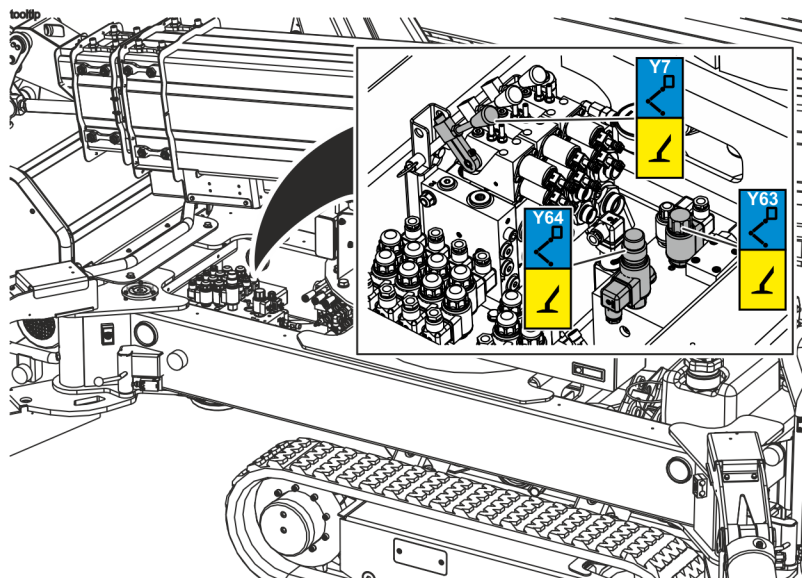

Fig. 190: Valves
13. Completely screw in the release valve (Fig. 190/Y63).
14. Completely screw out the pressure relief valve (Fig. 190/Y64).
- Make sure that for normal mode the valves (Fig. 190/Y63, Y64 and Y7) are in the initial position.